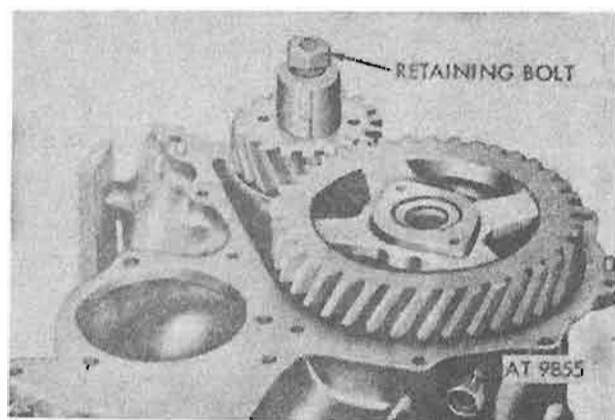

Figure 4-105. Install crankshaft pulley retaining bolt.
f. **Crankshaft Pulley Retaining Bolt**. Install crankshaft pulley retaining bolt in front end of crankshaft to prevent damaging threads when removing gear with puller (fig. 4-105).